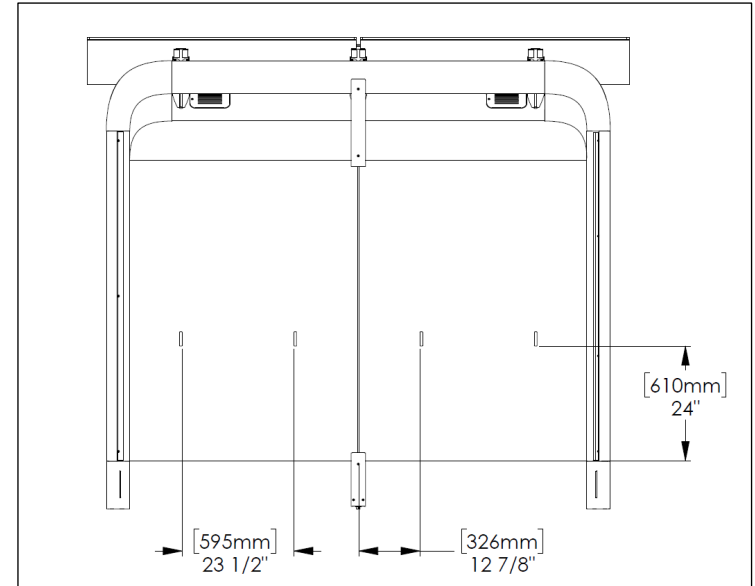

Fig. H13 – Install glass safety decals
11. Clean areas on glass panels to receive glass safety decals and apply. See Fig. H13 for recommended locations.